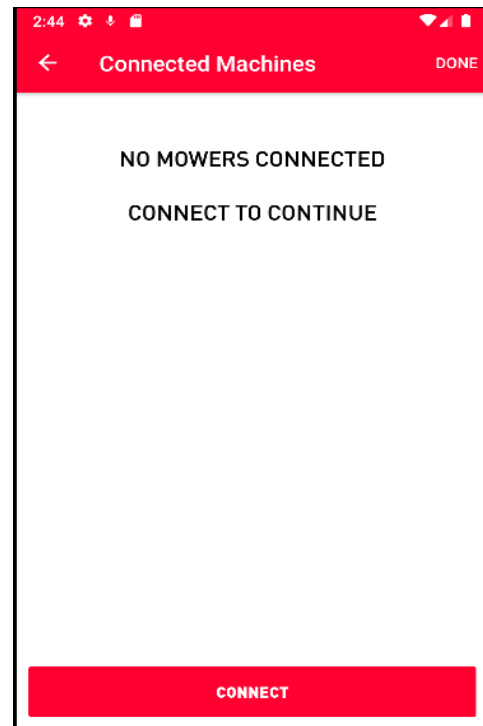

Figure 21
- Press the Connect button located at the bottom of the screen and a dialog should appear asking for a Pin number (*Figure 21*).